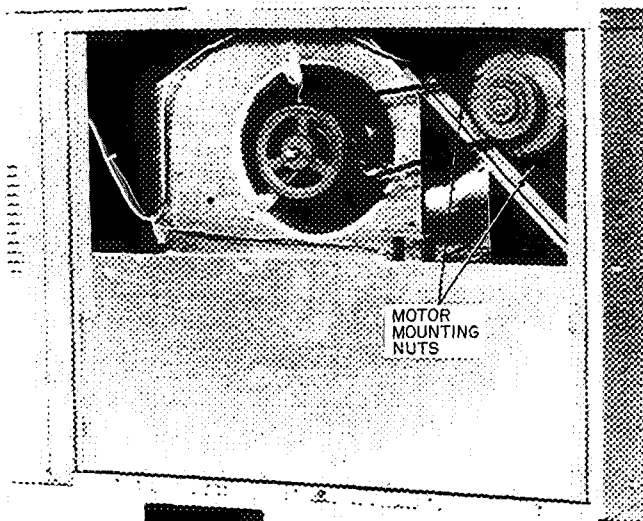

Fig. 11 - Belt Drive Motor Mounting
2. Loosen belt by loosening fan motor mounting nuts. See Fig. 11.